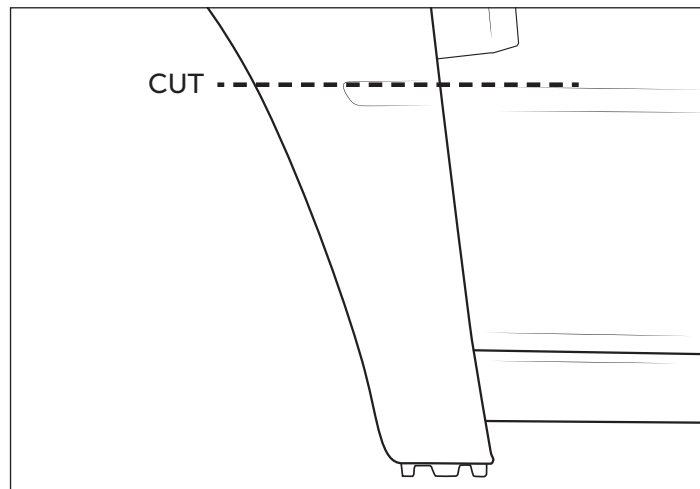

Figure 10: Driver-side shown
- A. Cut the fenders at the body line using a cut off wheel or air saw (fig. 10).